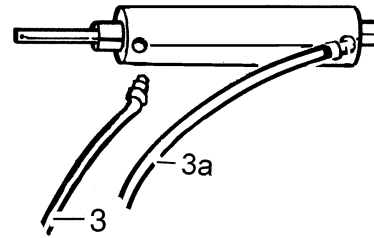

Figure 34
**Step 28:** Remove both of the elbow and orifice assemblies (Item 2) from the tubing on the front bearing panel. Apply thread sealant or Teflon tape to the threads of Item 2. Take care not to cover the hole in the orifice. Install Item 2 carefully into the air cylinder (Item 1) as in Figure 34.